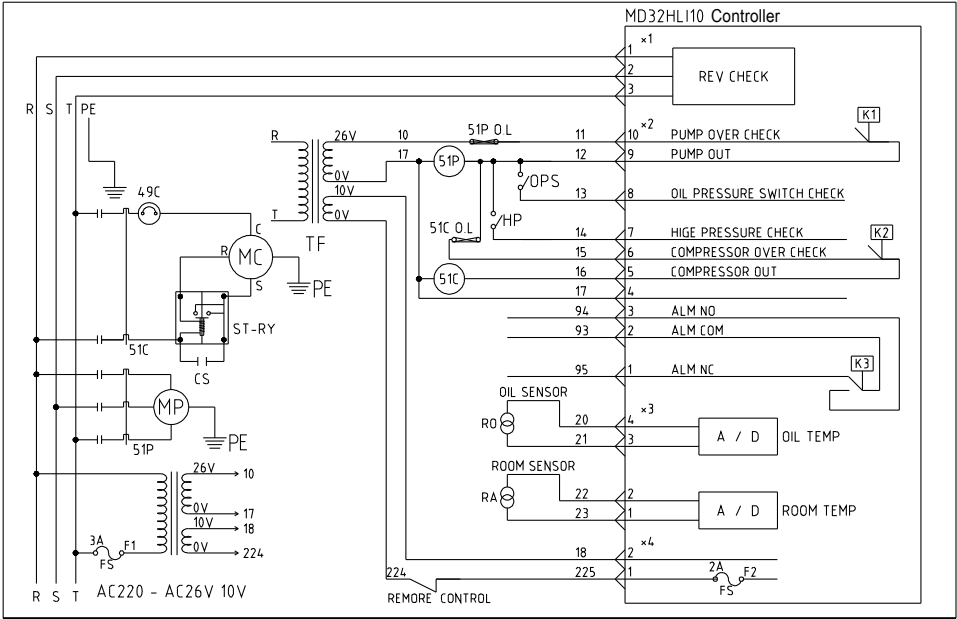

Figure 10.
- MO332 two-temperature display (S series controller) circuit diagram, please refer to figure 10.